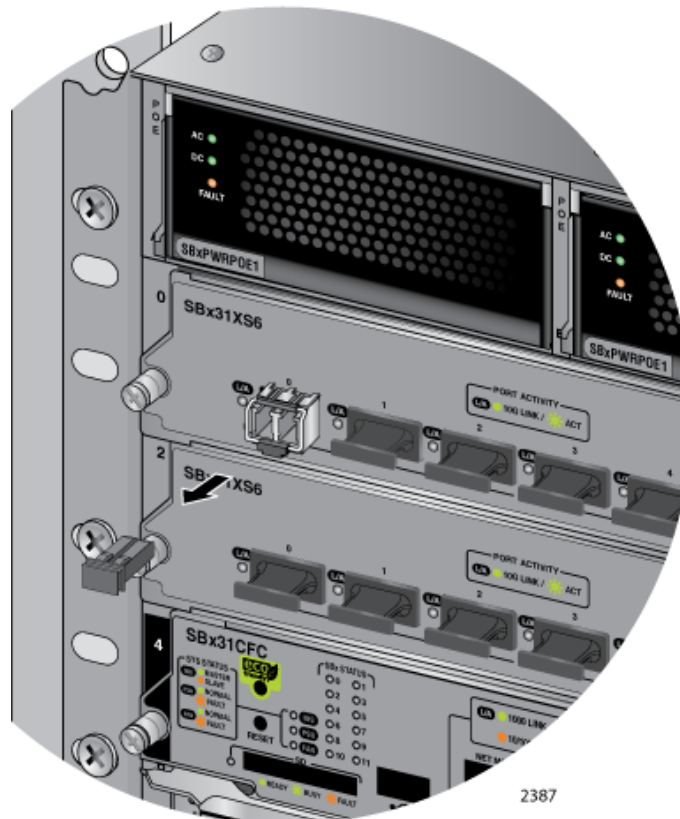

Figure 98. Removing the Dust Cover from an SFP+ Transceiver in the AT-SBx31XS6 Line Card
4. Remove the protective cover from the SFP transceiver, as shown in Figure 98.